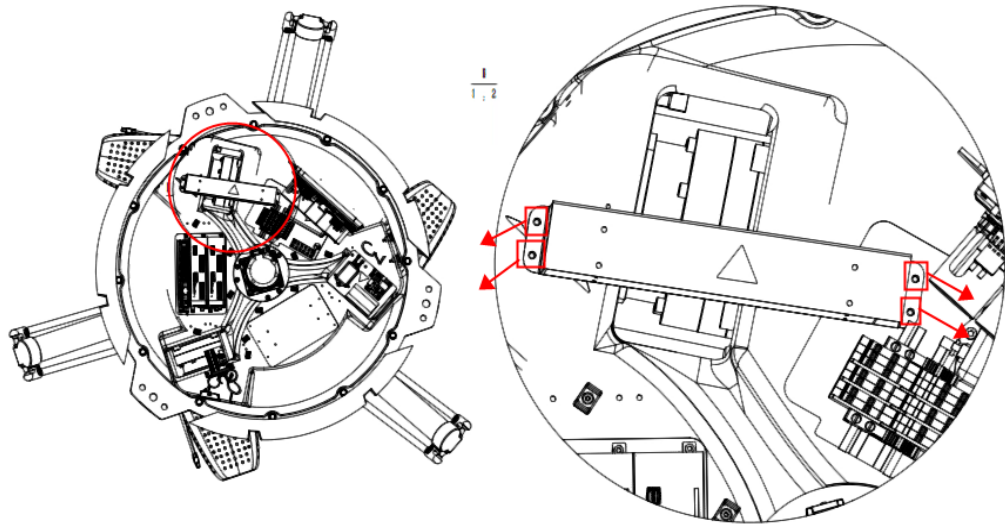

Figure 4-19 Schematic diagram of removing the 4 fixing screws on the 24V switching power supply adapter board
Step 2 Use the No. 3 Allen key to unscrew and remove the four fixing screws on the 24V switching power supply adapter board, as shown in Figure 4-19.